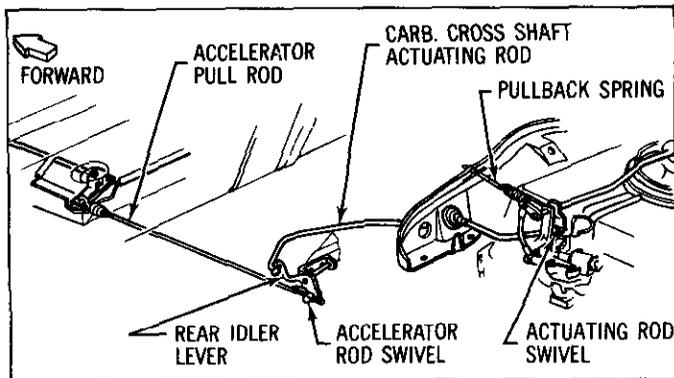

Fig. 1—Accelerator Linkage Adjustment
1. Disconnect the accelerator pull rod swivel from the rear idler lever (fig. 1).